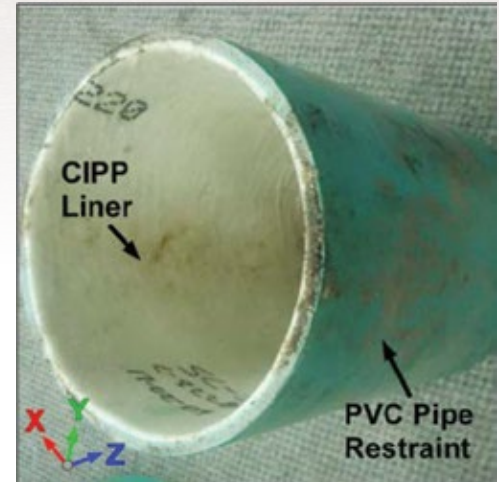

Figure 7: Typical Restrained Sample for Testing (courtesy Paragon Industries)
- Site-by-site sampling and testing to confirm that the mechanical properties meet design objectives (see Figure 7) and that the testing methods are representative of the installed product.